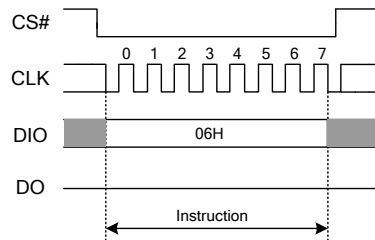

Figure 7.1 Write Enable Instruction Sequence Diagram
Instructions vary in length from a single byte to several bytes and may be followed by address bytes, data bytes, dummy bytes (don't care), and in some cases, a combination. Instructions are completed with the rising edge of edge CS#. Clock relative timing diagrams for each instruction are included in figures 7.1 through 7.5. All read instructions can be completed after any clocked bit. However, all instructions that Write, Program or Erase must complete on a byte boundary (CS driven high after a full 8-bits have been clocked) otherwise the instruction will be terminated. This feature further protects the device from inadvertent writes. Additionally, while the memory is being programmed or erased, or when the Status Register is being written, all instructions except for Read Status Register will be ignored until the program or erase cycle has completed.
The Write Enable instruction (Figure 7.1) sets the Write Enable Latch (WEL) bit in the Status Register to a 1. The WEL bit must be set prior to every Page Program, Sector Erase, Block Erase, Chip Erase and Write Status Register instruction. The Write Enable instruction is entered by driving CS# low, shifting the instruction code “06h” into the Data Input (DI) pin on the rising edge of CLK, and then driving CS# high.